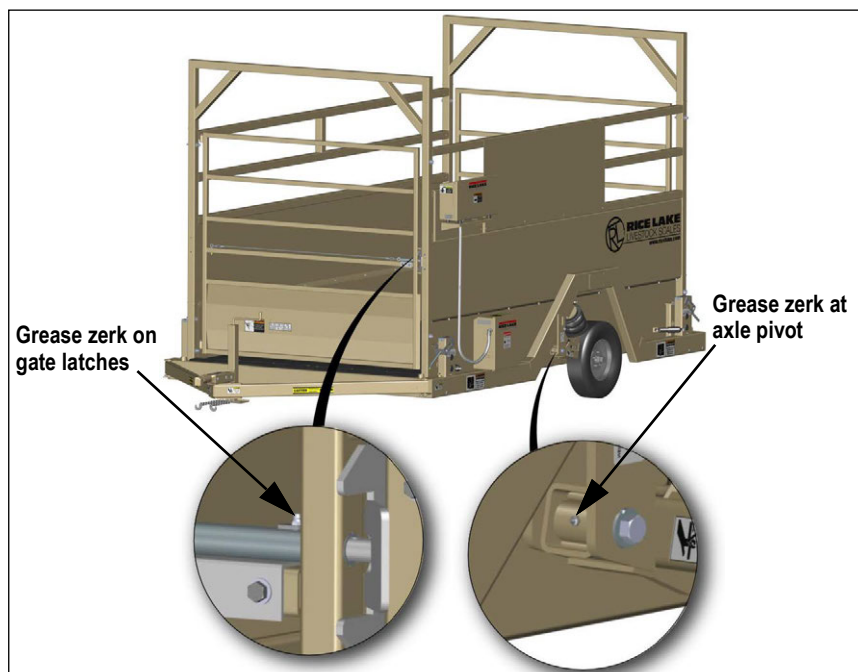

Figure 5-1. Grease Zerk Locations
Grease axle pivot locations with the provided grease zerks (Figure 5-1) using a Black Moly type grease.
3. Grease gate latch zerks (Figure 5-1) using a Black Moly type grease.